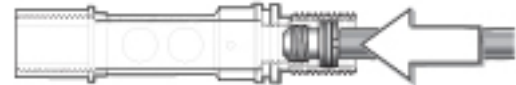

Figure 35 - Crown installation
- Install the O-ring (26) onto the crown (25), and carefully insert the threaded end of the crown into the inlet end of the valve body (23). Gently press it in further with the blunt end of the seat extraction tool (PN 109436) until it stops (see Figure 35).